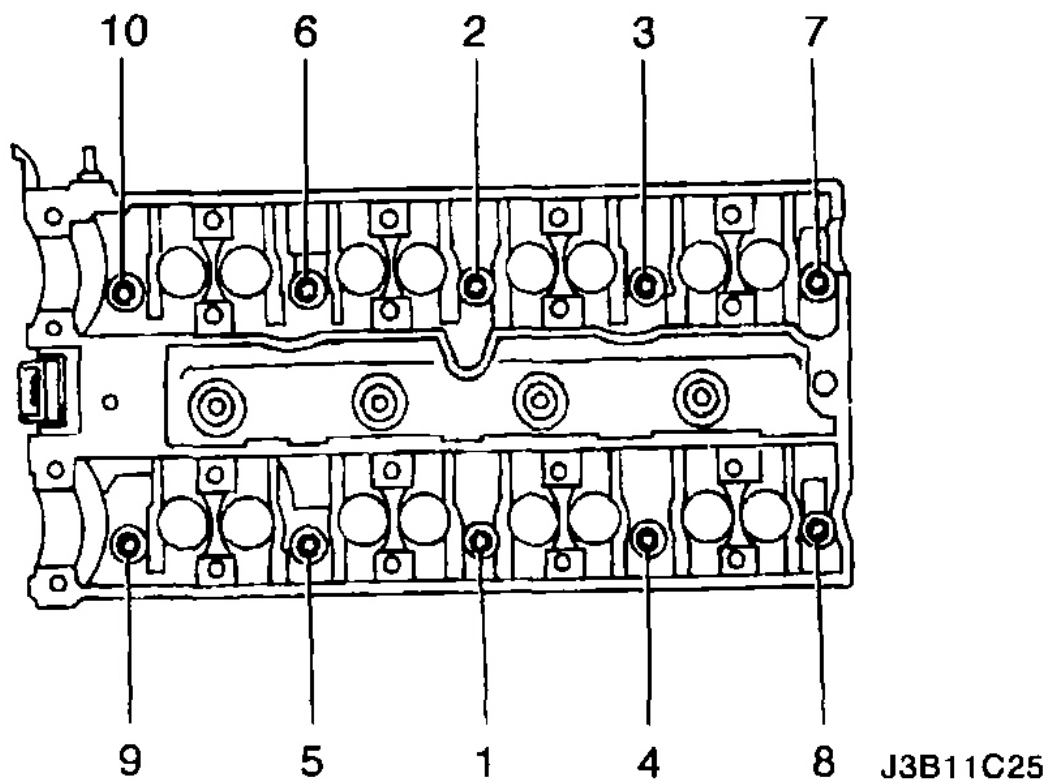

Fig. 24: Cylinder Head Bolt Tightening Sequence
4. Tighten the cylinder head bolts gradually and in the sequence shown in illustration. See **Fig. 24**.